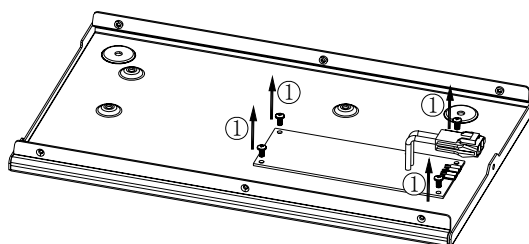

Figure 10
1. Remove the four screws (M3.0X6.0) that secure the power management PCB using a screwdriver, to remove the power management PCB ①, shown as Figure 10.